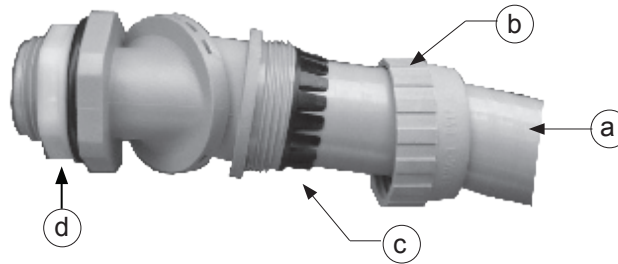

Fig.2-8, Conduit Connector
4. Install a conduit connector to the end of the conduit which will be installed in the legacy (upper) enclosure. Remove the plastic locknut. See Fig. 2-8.
6. Remove the plastic locknut and attach the lower conduit connector (Fig. 2-8) at the knockout hole. On the inside of the lower enclosure, thread the plastic locknut through the wiring and using channel locks carefully tighten the plastic locknut, sealing the black rubber O-ring securely against the enclosure. (Fig. 2-11)